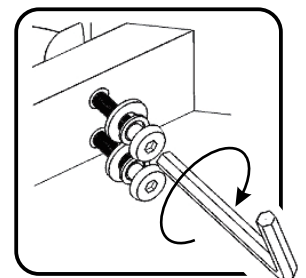

Figure 1
Attach Legs (B) and (C) to Seat (A) with Flat Washers, Spring Washers and Head Cap Bolts, tightening bolts only halfway. (See Figure 1)